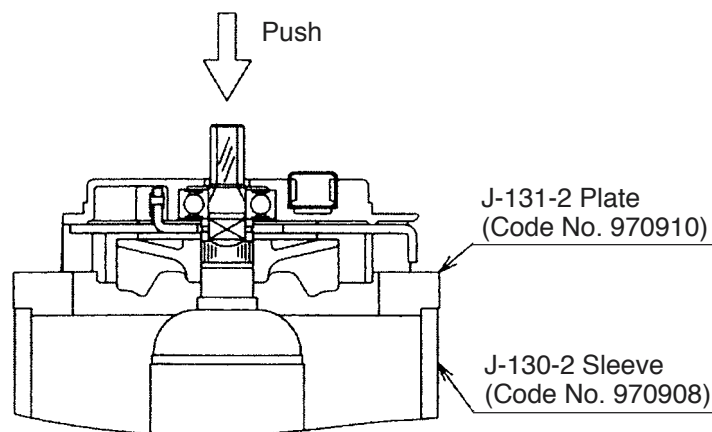

Fig. 10
4. As shown in Fig. 10, remove the Armature **[15]** **<15>** and the Lock Lever **[14]** **<14>** from the Inner Cover **[12]** **<12>** using the J-130-2 Sleeve (Code No. 970908) and the J-131-2 Plate (Code No. 970910).
6. For the Model SP 18VB, remove the Magnet **[26]** screwed in the rear end of Armature (A) **[15]** with the wrench. At this time, be careful that the Magnet **[26]** has a left-hand thread.